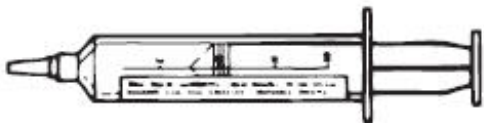

Figure 5. Syringe with cap and label
9. Peel the backing from the label and attach the label to the syringe, making sure not to cover the volume indicators on the syringe (Figure 5).